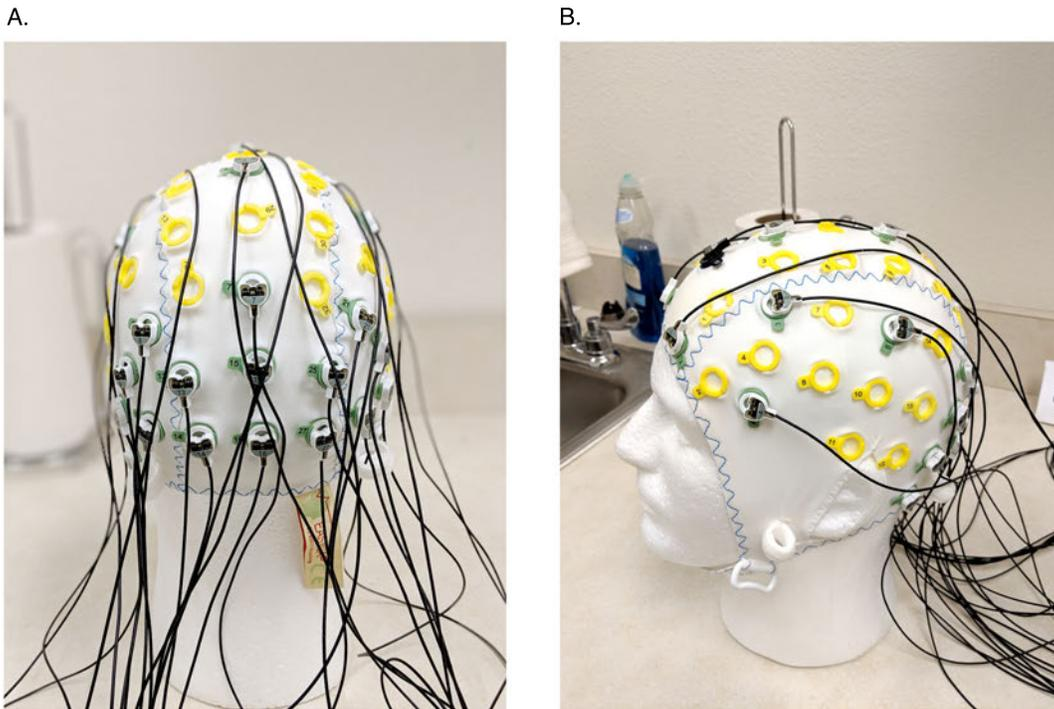
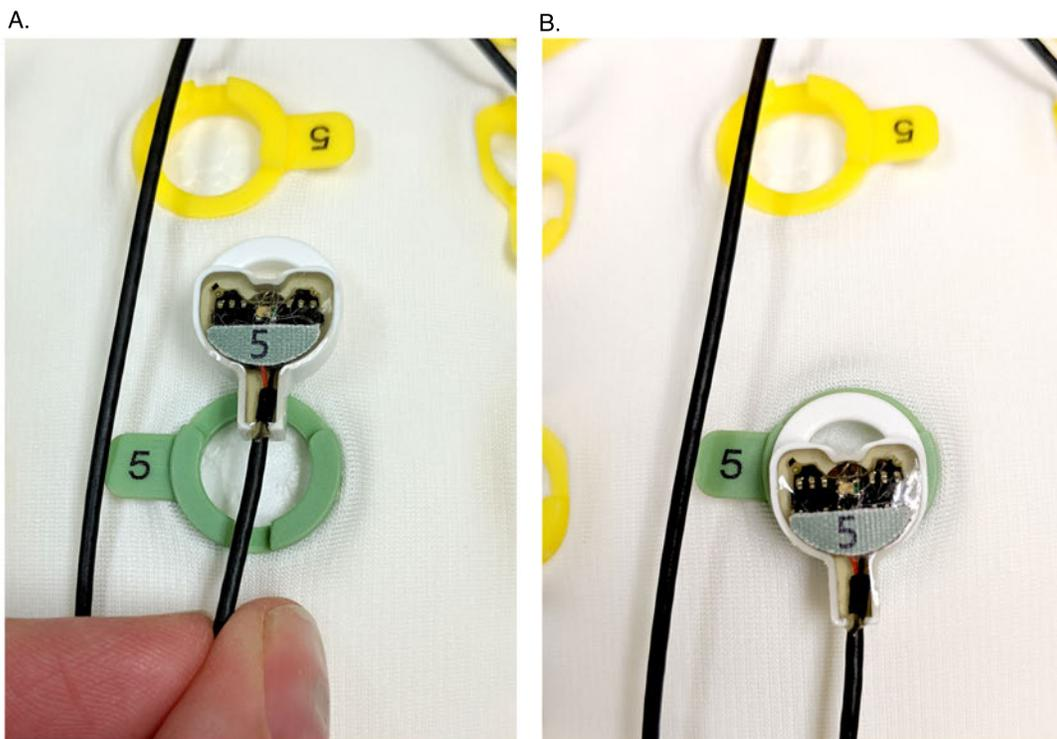

Figure 3. Prepped electrode cap with wires properly pointing toward the back of the head, as viewed from the back (panel A) and from the side (panel B).
Figure 4. Illustration of the direction the electrodes should be slid into the electrode holders.
8. Carefully slide the electrodes (except for the external electrodes) into the cap with the wires pointing towards the back of the cap (see Figure 3). This reduces tension on the wires during the recording and minimizes tangling. The bottom of the electrodes (wire end) should be slid into the top of the holder in a downward motion, not pushed in with an upwards motion from the bottom of the holder (see Figure 4). Be sure to push the